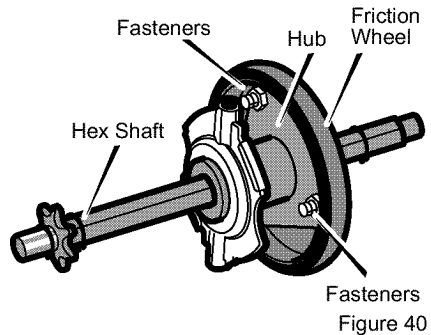

Figure 40
11. Remove the three **fasteners** that hold the **friction wheel** to the **hub** (see Figure 40).